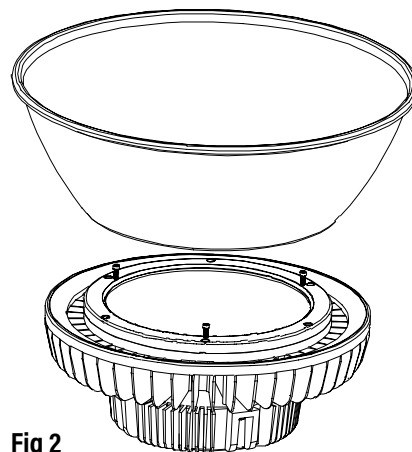

Fig 2
2. Align and insert screws into holes on the aluminum reflector. Turn reflector counterclockwise to lock in place. Tightening the screws completely to secure the reflector to the fixture. (Fig. 2)